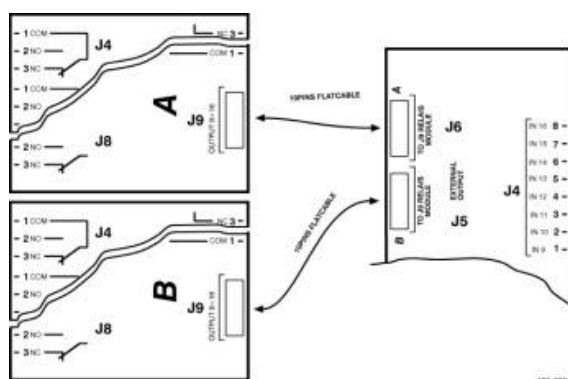

Fig. 3 - Board interconnection
3.4 DITEL Modules Interconnection (ref. - fig. 3)